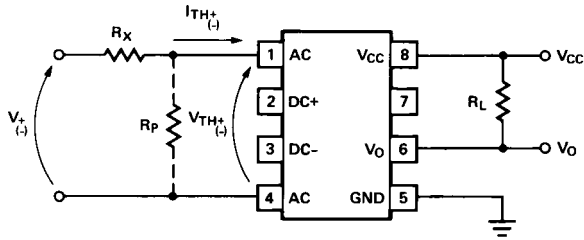

Figure 13. External threshold voltage level selection.
The HCPL-0370/3700/3760 optocouplers have internal temperature compensated, predictable voltage and current threshold points which allow selection of an external resistor, R_X , to determine larger external threshold voltage levels. For a desired external threshold voltage, V_{\pm} , a corresponding typical value of R_X can be obtained from Figure 12. Specific calculation of R_X can be obtained from Equation (1). Specification of both V_+ and V_- voltage threshold levels simultaneously can be obtained by the use of R_X and R_P as shown in Figure 13 and determined by Equations (2) and (3).